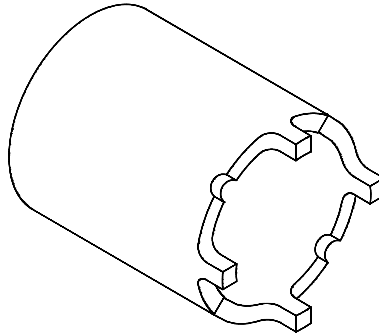

Figure 2. 4-Lug socket.
Jack-stands	4-Lug Socket for Dana 44 (Fig 2)*
- Using hub spindle nut socket (See Figure 2) and torque wrench torque nut to 50 ft-lb. Rotate wheel back and forth while tightening the nut. This helps seat the bearings.